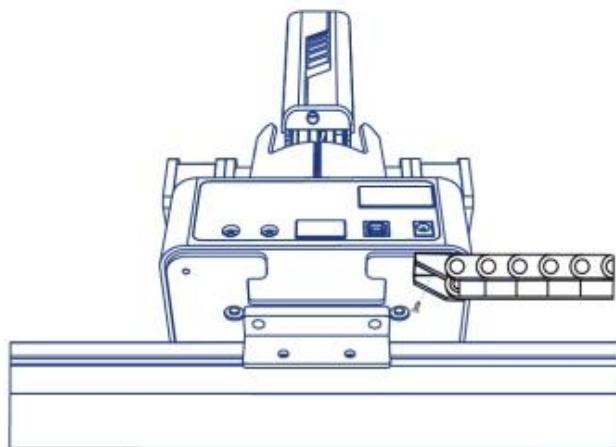

Figure 5.33 Connect to wire set
**Step 3** Connect the end of the wire set to the plate b with a M3\*6 countersunk head hexagon screw, as shown in Figure 5.33.